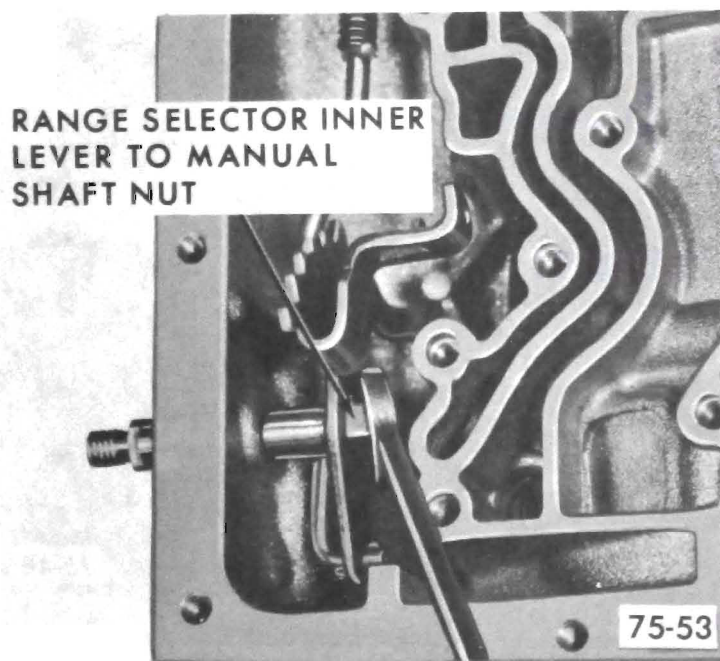

Figure 75-265
3. Install retaining jam nut on manual shaft. Torque jam nut to 30 lb.ft. See Figure 75-265.